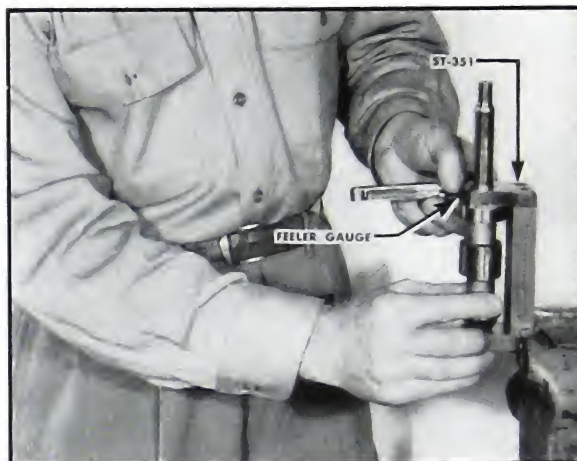

Fig. 5-309. Check spacing with ST-351
4. Check spacing between the small diameter of the disc driving gear and the inner race of the middle ball bearing. Correct spacing is 4.029 inches. Use ST-351 snap gauge and add spacers as needed to get correct spacing. Fig. 5-309.